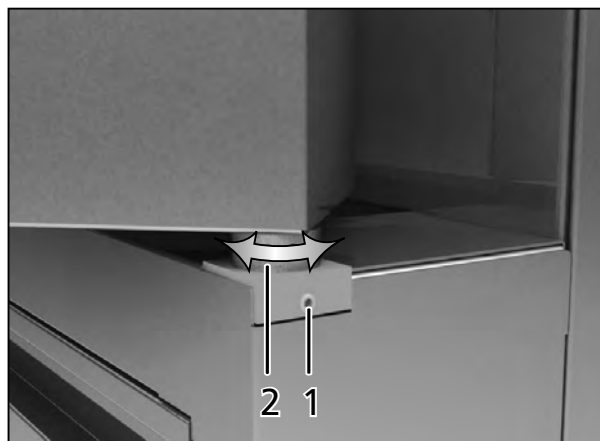

Fig. 39 Adjusting the door
1. Undo the grub screw with a Torx-TX8 tool (Fig. 39). This is fixed with locking paint and can be undone with a jolt.
2. Adjust door by turning the eccentric tappet (2) with a screwdriver.